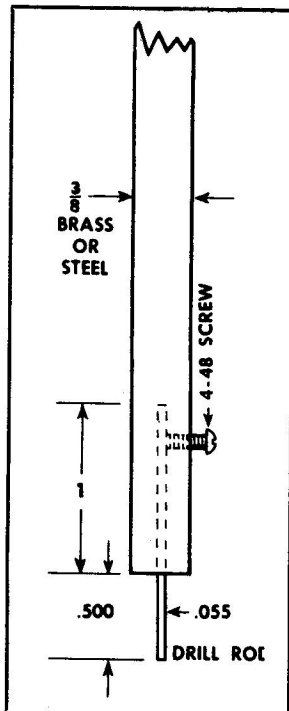

Figure 32 — Pivot Punch
(3) For replacing the pivot, use a drill press for an arbor press and press in with a fixture and punch such as shown in figure 32. The bottom of the pivot should be .038 above the bottom edge of the pivot cap.
*a.* PIVOT PUNCH. — (See figure 32.) The pivot punch is designed to remove the pivot without damage to the float. It is slightly under the diameter of the pivot.